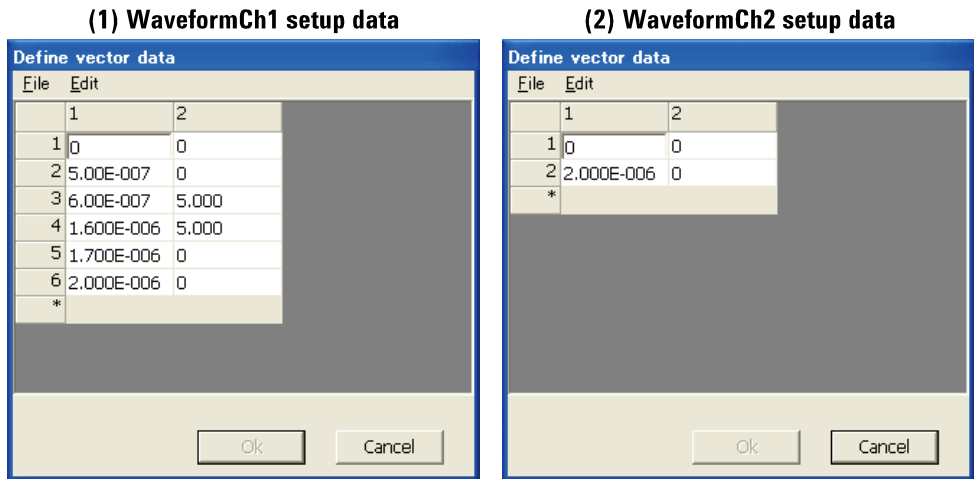
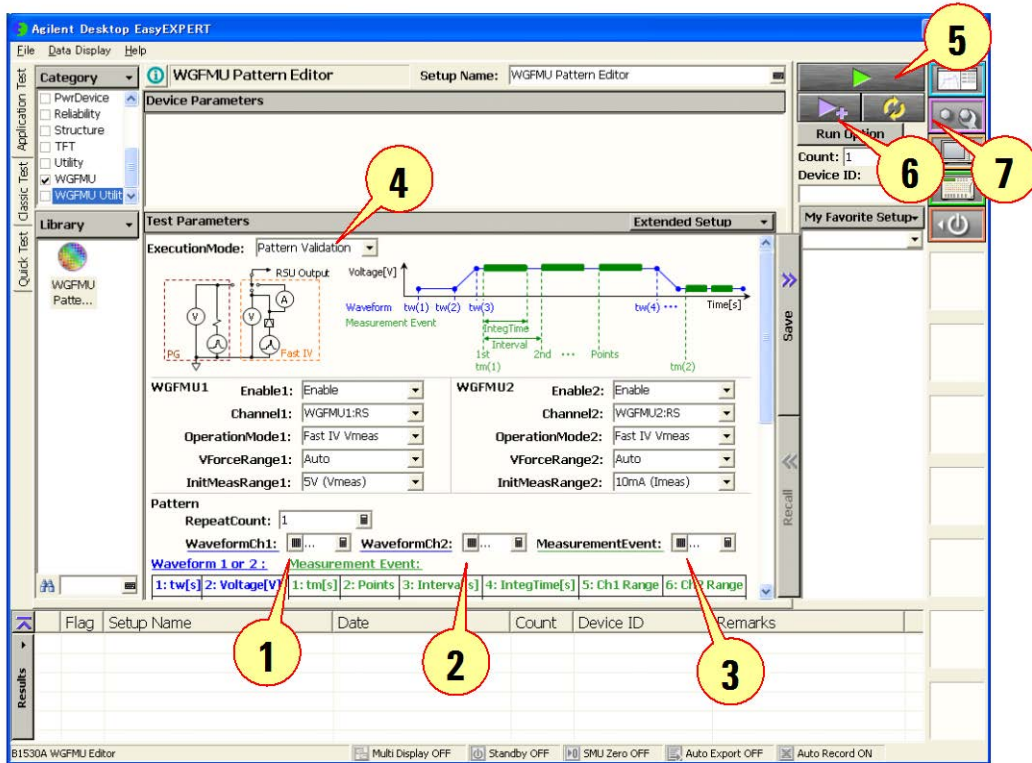
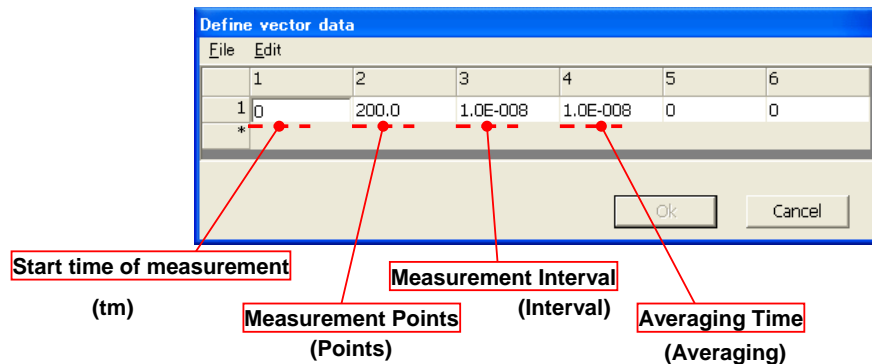

Fig. 2-3 Waveform data setup
Fig. 2-4 WGFMU Pattern Editor application test
Fig. 2-7 Measurement event setup
Launch the EasyEXPERT software and open the WGFMU Pattern Editor application test definition. See Fig. 2-3 for example display of the WGFMU Pattern Editor.
The channel output can be defined by using the Define vector data dialog box opened by clicking (1) or (2) shown in Fig. 2-4. The Ch1 output can be defined by the setup shown in the left image of Fig. 2-3, and the Ch2 output can be defined by the setup shown in the right image of Fig. 2-3.
Fig. 2-7 shows the actual setting of this measurement. The measurement event can be defined by using the Define vector data dialog box opened by clicking (3) shown in Fig. 2-4.
To execute measurement, click (5) shown in Fig. 2-4.
To obtain this kind of result, use the setup shown in the Fig. 2-14. And execute measurement with the 10 ns averaging first, then change the averaging time to 1 μ s and click the Append button, (6) shown in Fig. 2-4, to overlay the measurement data.